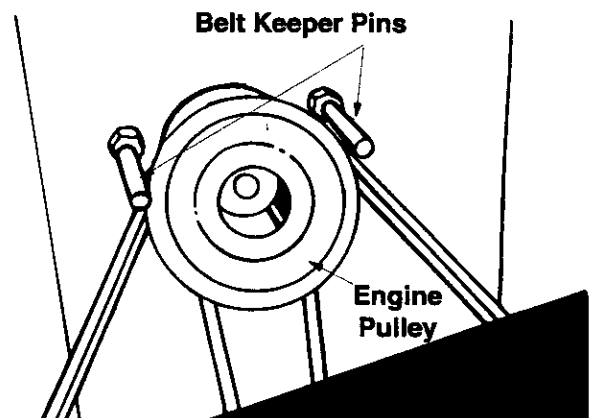

Figure 25
NOTE: Figures 25, 29 and 30 are shown with the unit tipped up for clarity. It is not necessary to tip the unit to remove the belts.
NOTE: When reassembling, make certain belt keeper pins are assembled in the same locations from which they were removed. See Figure 25.
4. Remove the belt keeper pins from the lower frame. See Figure 25.
3. Remove the belt keeper pins from the engine pulley belt guard. Refer to Figure 25.
NOTE: Make certain belt keeper pins are reassembled as shown in Figure 25.
NOTE: When reassembling, make certain belt is inside the pins. See Figure 25.